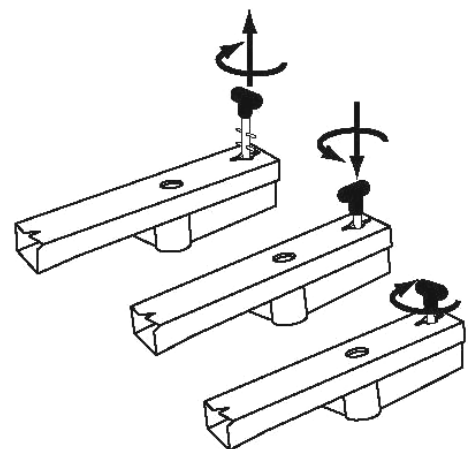

Figure 25a
1. Lift the Handle of the Tow Bar Locking Pin and rotate it (**Figure 25a**) to align the Spring Pins with the slot in the Tow Bar. Continue lifting until both Spring Pins are above the Tow Bar.
4. Lift the Handle and twist it until the Spring Pins align with the Slots in the Tow Bar. Press down to be sure to seat the Pin in the Mounting Plate hole (**Figure 25a**) at the desired location.
5. Rotate the Handle to position the Upper Spring Pin out of alignment with the Slot in the Tow Bar (**Figure 25a**).